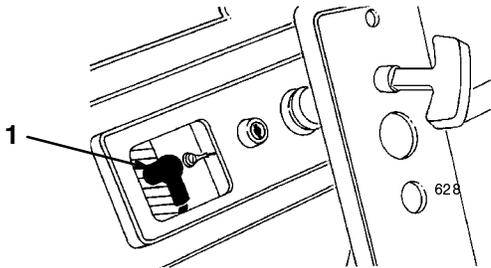

Figure 17
- 5. Disconnect the wire from the spark plug (Fig. 17).
- Disconnect the wire from the spark plug and remove the spark plug (Fig. 17).
- Disconnect the wire from the spark plug (Fig. 17).